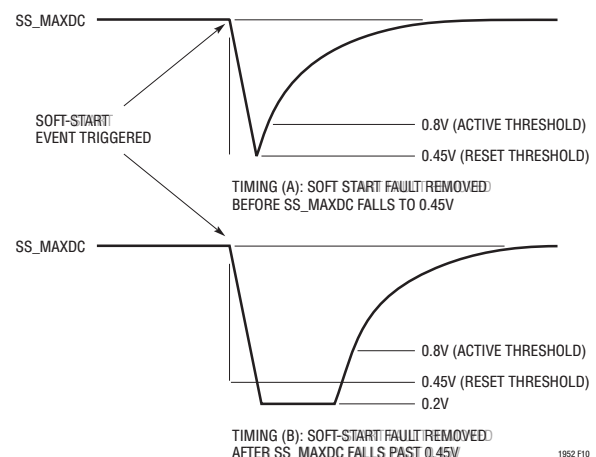

Figure 10. Soft-Start Timing
The LT1952/LT1952-1 have built-in soft-start capability to provide low stress controlled start-up from a list of fault conditions that can occur in the application (see Figure 1 and Figure 10). The LT1952/LT1952-1 provide true PWM soft-start by using the SS_MAXDC pin to control soft-start timing. The proportional relationship between SS_MAXDC voltage and switch maximum duty cycle clamp allows the SS_MAXDC pin to slowly ramp output voltage by ramping the maximum switch duty cycle clamp—until switch duty cycle clamp seamlessly meets the natural duty cycle of the converter. A capacitor C_{SS} on the SS_MAXDC pin and the resistor divider from V_{REF} used to program
It can be seen in Figure 10 that two types of discharge can occur for the SS_MAXDC pin. In timing (A) the fault that caused the soft-start event has been removed before SS_MAXDC falls to 0.45V. This means the soft-start latch will be reset when SS_MAXDC falls to 0.45V and SS_MAXDC will begin charging. In timing (B), the fault that caused the soft-start event is not removed until some time after SS_MAXDC has fallen past 0.45V. The SS_MAXDC pin continues to discharge to 0.2V and remains low until all faults are removed.